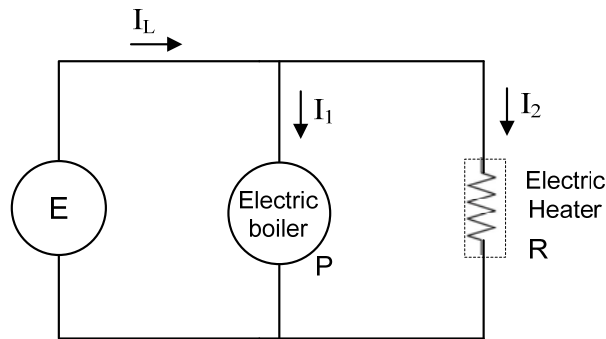

Figure 1.1
1. (a) A single phase AC source with voltage  $E = 1.5 \text{ kV}$  delivers power to an electric boiler and an electric heater as shown in Figure 1.1. The power of the boiler,  $P$  is 120 kW while the resistance of the heater,  $R$  is  $80 \Omega$ . If the system uses base voltage,  $E_B = 500 \text{ V}$  and base power,  $P_B = 10 \text{ kW}$ , calculate the following: